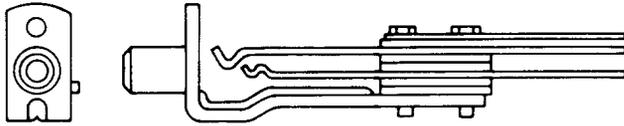

Fig. 9 — KS-21001, L1, or L3, Jack
- (a) **KS-21001, L1:** The KS-21001, L1, jack (Fig. 9) contains a tip spring and a ring spring with wire-wrap terminals.
- (c) **KS-21001, L3:** The KS-21001, L3, jack (Fig. 9) contains a tip spring and a ring spring with solder terminals.